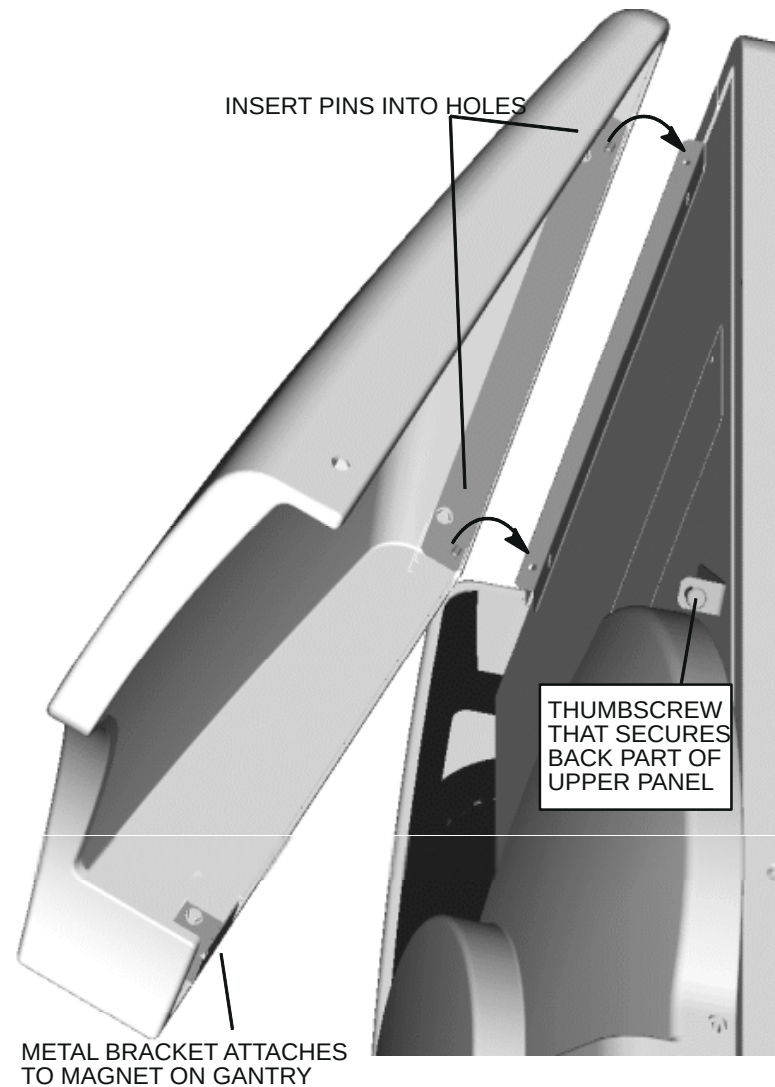

FIGURE 12 UPPER SIDE COVER
2. Align and insert the pins on the Upper Right Column Cover into the holes on the Cover Mounting Bracket which is attached to the Gantry Side Panel. Refer to Figure 12.